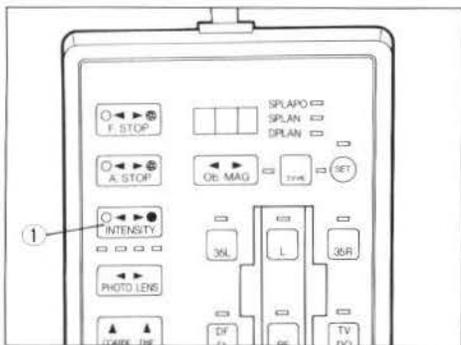

Fig. 30
Looking through the eyepieces, press the intensity control button ① on the control box to obtain optimum intensity. (Fig. 30)